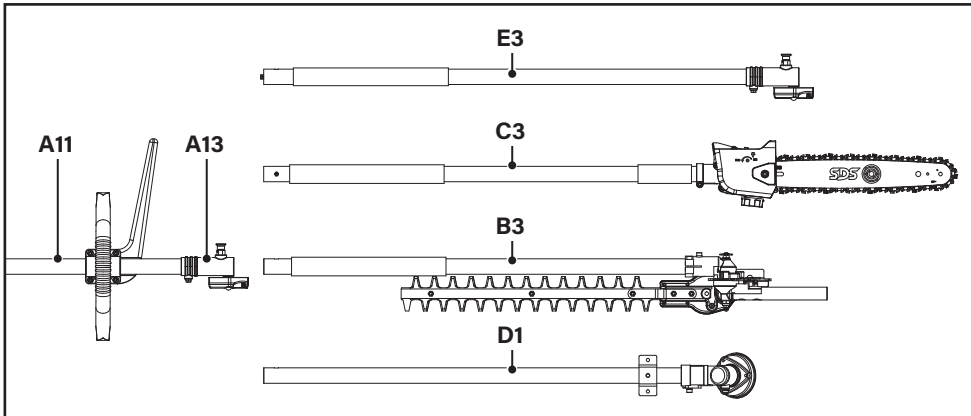

Fig. 10
7. Insert the multi-tool 1 (F6) into the hole to lock the rotation of the backing flange (D5) (Fig. 10, step 1).
8. Use the multi-tool 3 (F8) to loosen the securing nut (D9) by turning it clockwise (Fig. 10, step 1).
9. Remove the securing nut (D9), the front flange (D8) and the locking flange (D7) from the gear head (D2) (Fig. 10, step 1).
10. Place the tri-arc cutting blade (D6) onto the spindle (D3). The side with markings should be facing towards the gear head (D2) (Fig. 10, step 2).
11. Place the locking flange (D7), front flange (D8) and then the securing nut (D9) onto the spindle (D3). Use the multi-tool 3 (F8) to tighten the securing nut in anticlockwise direction to secure the parts in place 1 (Fig. 10, step 2).
2. Pull out and rotate the locking knob on the split shaft connector (A13) in anticlockwise direction to stop at the bracket. Insert the shaft tube (B3/ C3/ D1/ E3) of the attachment into the main shaft tube (A11) (Fig. 10).